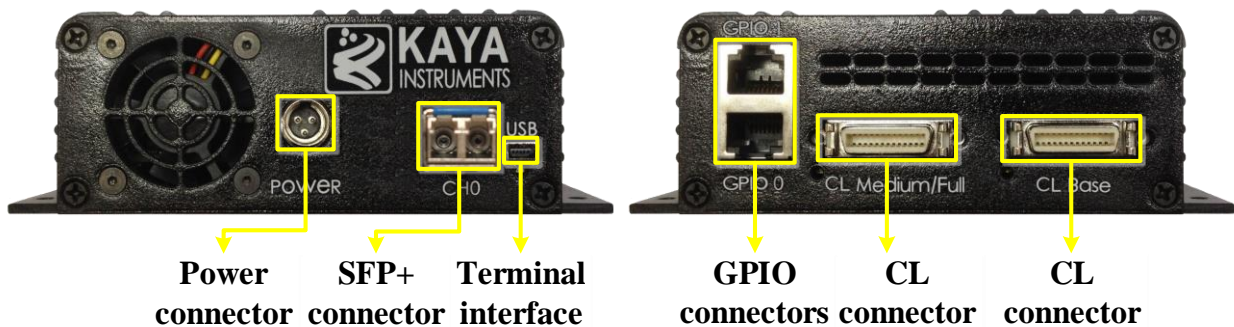

Figure 3 : KY-CL2F external view
Each *KY-CL2F* unit is housed in a compact, metal enclosure. Each unit has a power connector, 2 Camera Link connectors (MDR), SFP+ cage, 2 x RJ45 connectors for GPIO and a Mini USB Terminal interface, as shown in Figure 3.
7. The power supply connector of the **KY-CL2F** unit shown in Figure 3.